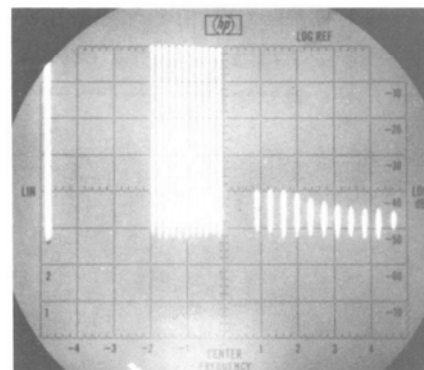

Figure 4-8. Typical Harmonic Distortion CRT Display 0 to 500 MHz
10. Figure 4-8 illustrates a typical display of the LO feedthru, fundamental and second harmonic signals.